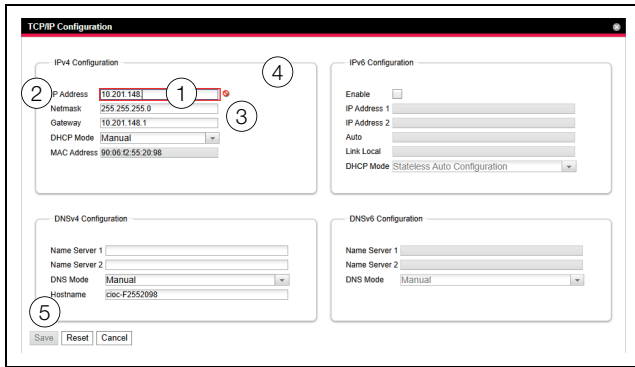

Fig. 97: Display of an incorrect entry
- A red "prohibited symbol" (fig. 97, item 3) appears after the incorrect entry (fig. 97, item 2) in the **Netmask** field (fig. 97, item 1).
- By holding the mouse pointer over the prohibited symbol, additional information about the error will appear (fig. 97, item 4).
- The **Save** button is deactivated (fig. 97, item 5), so that the current values cannot be saved.